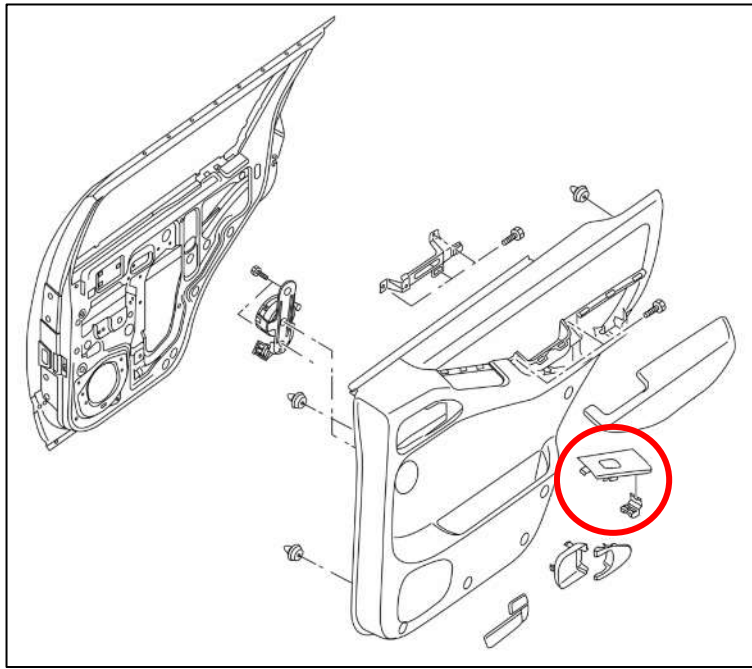

Figure 83
4. Pry up the Door Control Panel with a Trim Removal tool. *Figure 83.*